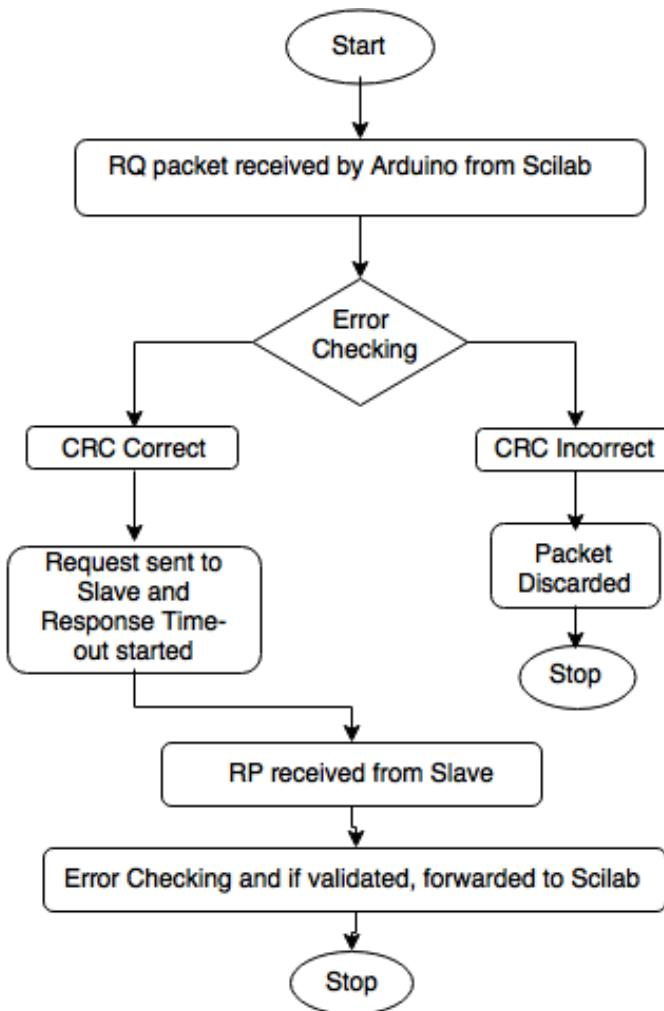

Figure 11.6: Flowchart of Arduino firmware
1. Firmware for Arduino Uno: This code is written to communicate with Scilab (using serial interface), and with RS485 module (using Software Serial interface). Control logic to enable receive and transmit modes of MAX485 chip is also present in this firmware. The overall implementation of this firmware is demonstrated in Fig. 11.6.